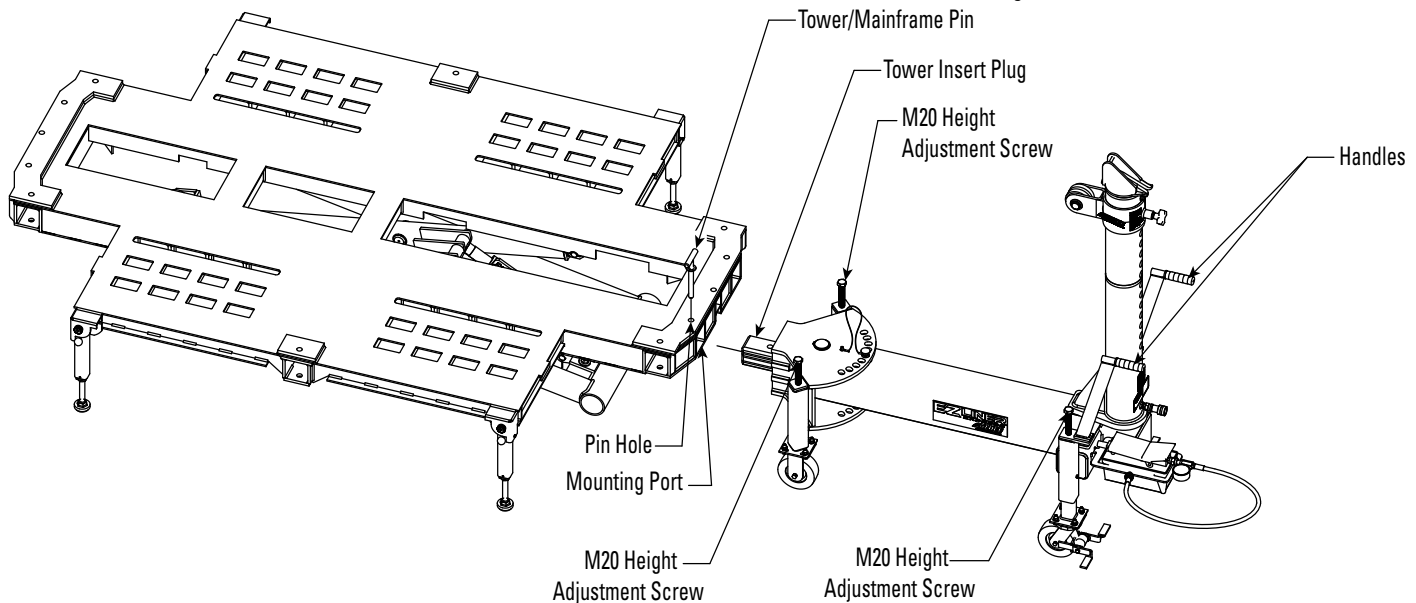
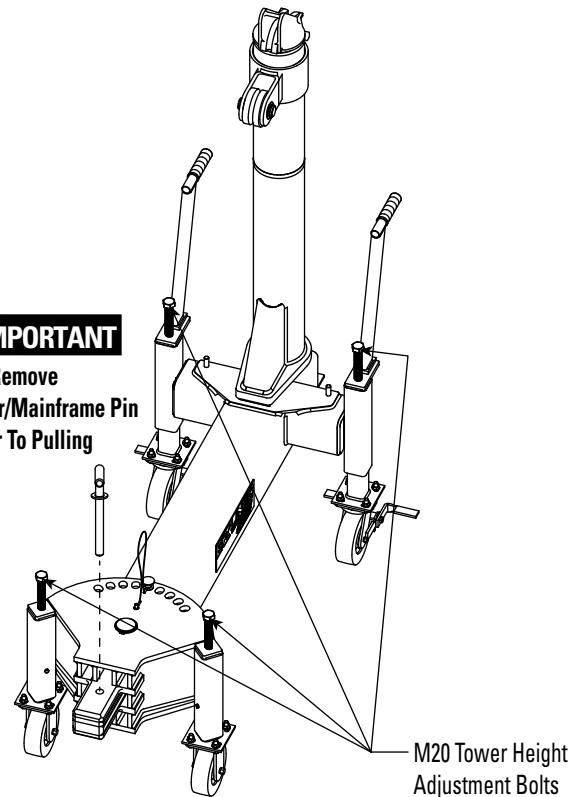

Figure 32
Figure 33
1. Push Tower (using handles) toward the tower mounting port on the mainframe (see Figure 32). Raise or lower the tower by tightening or loosening each M20 tower height adjustment bolt (4 total, see Figure 33) so that the insert plug on the tower is at the same height as the mounting port of the mainframe.